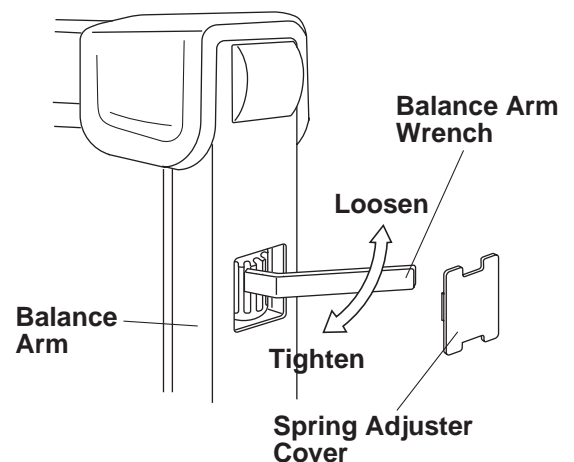

Fig.4-3 Balance Arm Tension Adjustment for FK1/FK2 and FM
C. BALANCE ARM TENSION ADJUSTMENT (Fig.4-3)
(Fig.4-3)